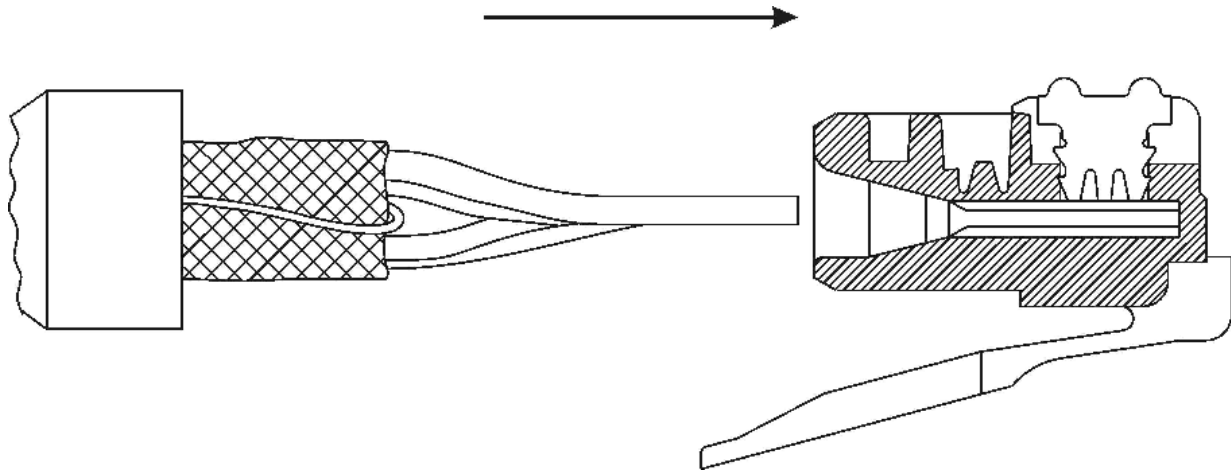

FIGURE 8
E. Insert the cable into the plug as shown in figure 8. Push the outer jacket towards the Plug. Slide the shield onto the plug. Continue with instruction I.